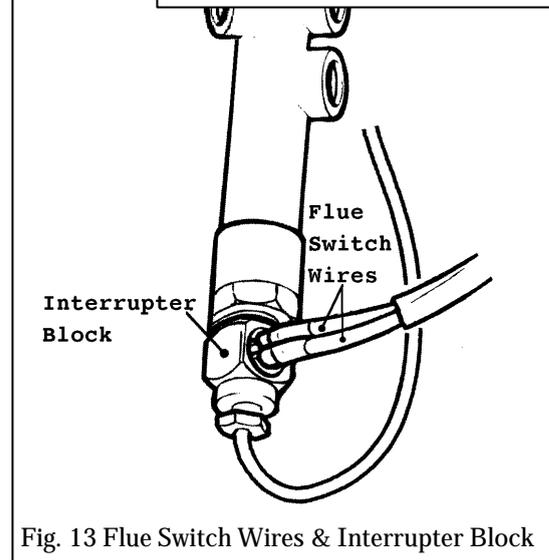

Fig. 13 Flue Switch Wires & Interrupter Block
15.12.2 Loosen the thermocouple connection to the interrupter block and detach the flue switch wires (see fig. 13).
15.13.3 Disconnect the thermocouple and flue switch wires from the gas tap interrupter block (Fig. 13).